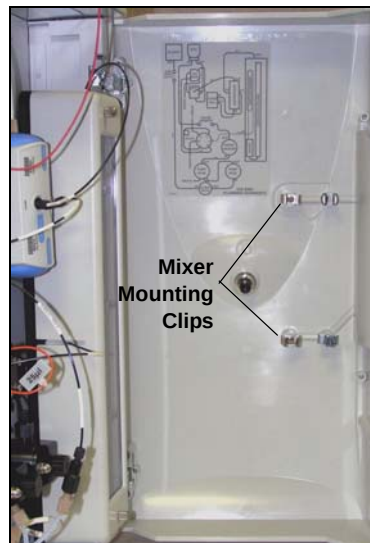

Figure B-88. Location of Mounting Clips for the EGC CO₃ Mixer
2. Install the larger diameter mounting clips (P/N 063642) (see Figure B-88).